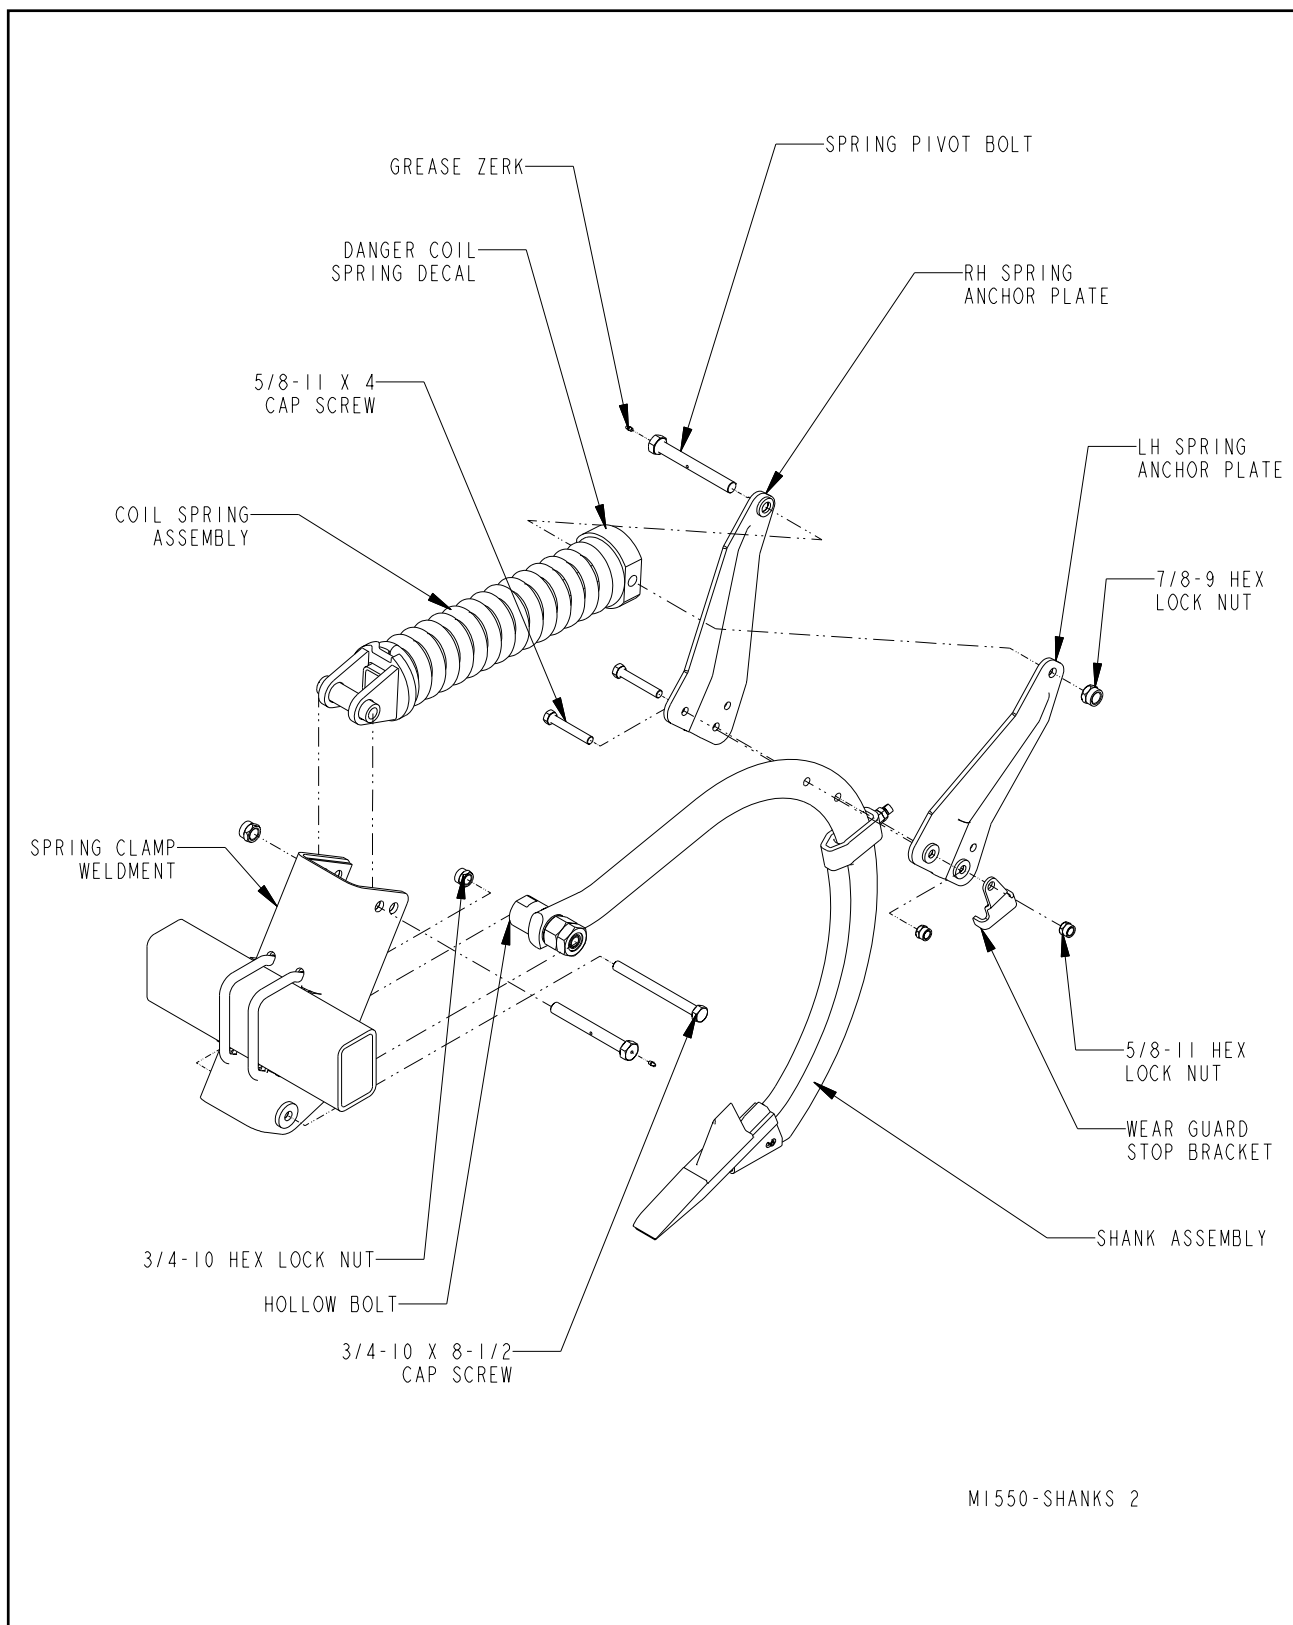

Figure 3-2 Parabolic Shank Assembly
- 3-5.2** Attach shank assembly to lower hole of spring clamp using 3/4-10 x 8-1/2 hex head cap screw and hex lock nut. Tighten the nut on the hex head cap screw to 200 ft.-lbs. Grease hollow bolt (**See Figure 3-2**).